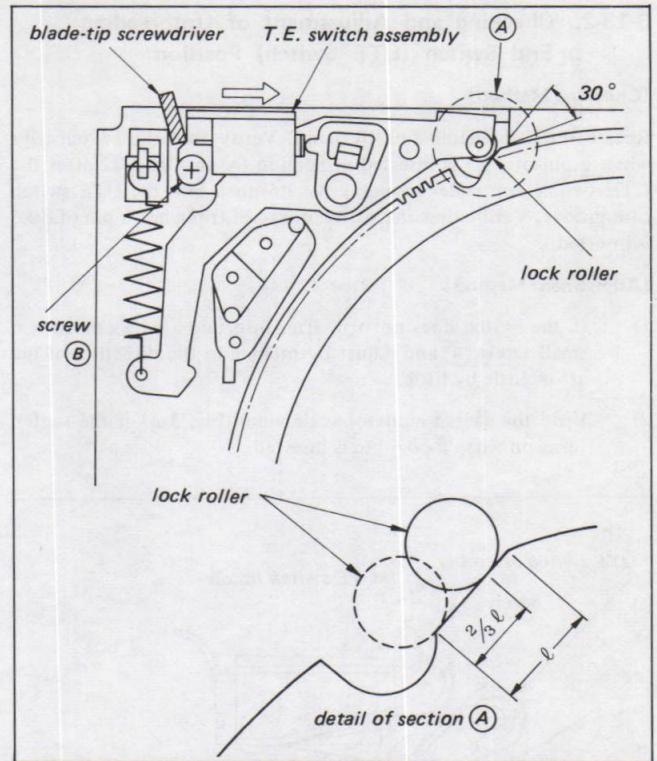

Fig. 3-20. TE switch position adjustment
[Checking Procedure] (Fig. 3-20)
Rotate the S-threading ring by hand and check that the TE switch turns on and off with a clicking noise while the lock roller is moving within the lower 2/3 of the straight portion ℓ of the recess (A) in Fig. 3-20) on the ring